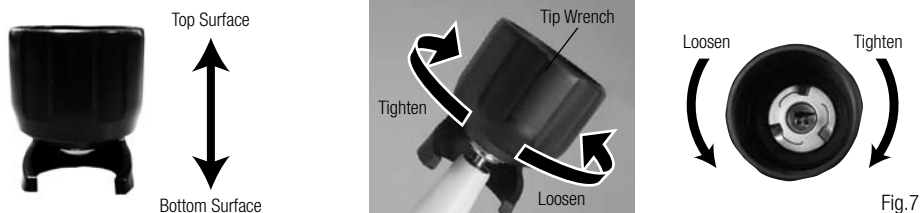

Fig.7
- 2) Turn it clockwise until the Wrench clicks. (Fig. 7) Do not turn the handpiece cord.